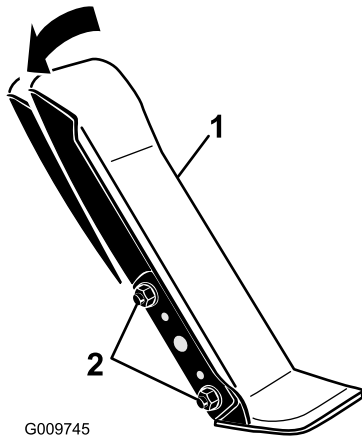

Figure 61
1. Loosen the two nuts and bolts securing the left side of the traction pedal to the bracket (Figure 61).
2. Pivot the pedal to the desired operating angle and tighten the nuts (Figure 61).